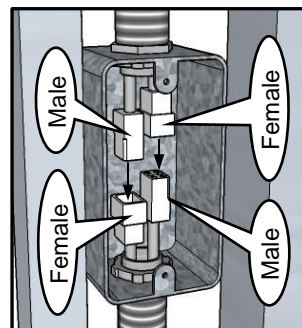
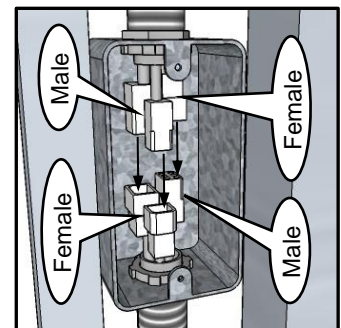

Figure 13
Figure 14
- 3 On 3-stop & 4-stop dumbwaiters, the wires dropping down will have male and female connectors as will the junction box. Make sure the male and female from above plug into the male and female from below. (for 3-stops see Figure 13) (for 4-stops see Figure 14)